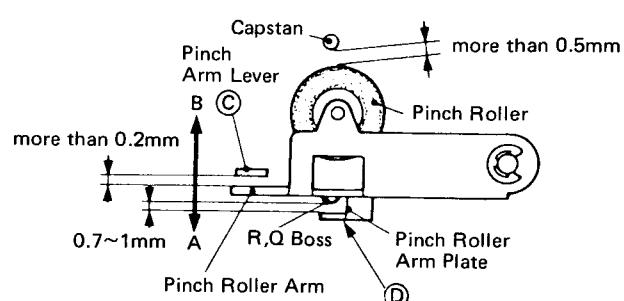

Fig. 19
- If the tape is projected from the cassette half at the beginning of cue action, adjust it by bending the part (C) of pinch arm lever to the A direction as shown in Fig. 19.
- If the tape is fast forwarded at the beginning of cue action, bend the part (C) to the B direction as shown in Fig. 19.
- If the tape is projected from the cassette half at the beginning of review action, bend the part (C) to the A direction as shown in Fig. 19.
- If the tape is fast forwarded at the beginning of review action, bend the part (C) to the B direction as shown in Fig. 19.
- After adjustment check that the gap between the RQ boss and the pinch roller arm plate is within 0.7 to 1mm. If it is beyond the limits, adjust it by bending the part (D) of pinch roller arm plate as shown in Fig. 19.